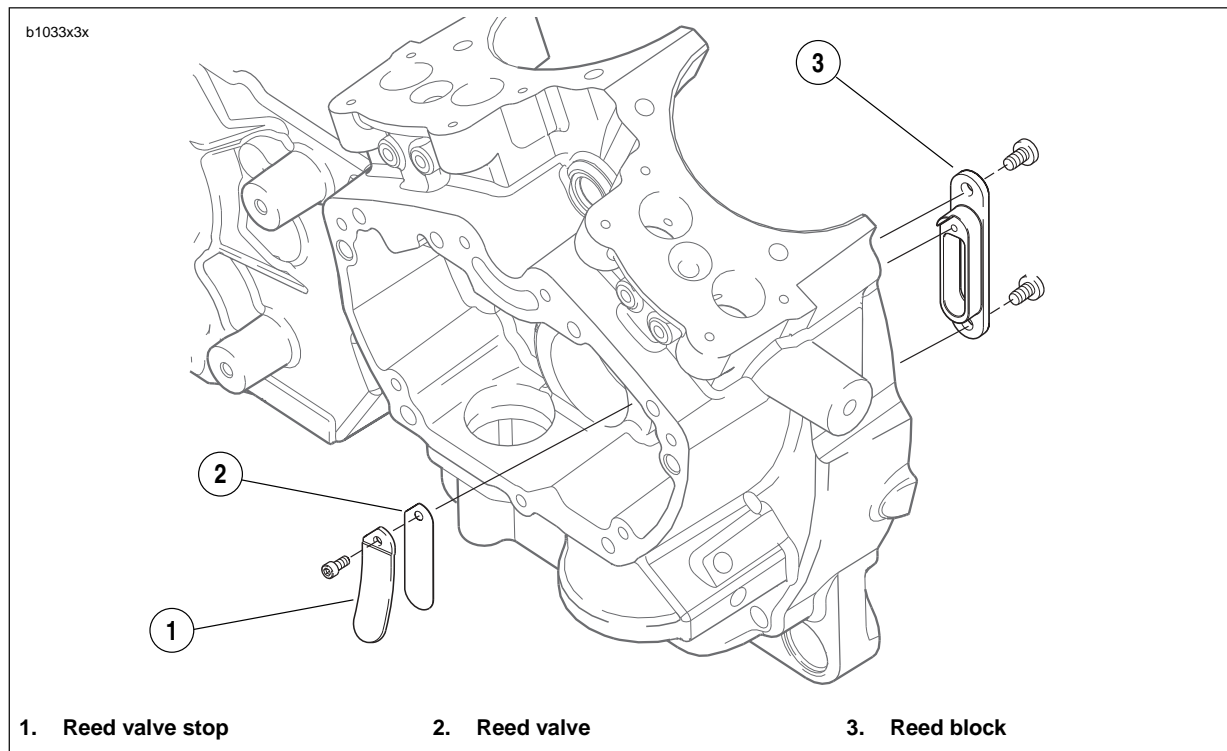

Figure 3-116. Reed Valve Assembly
See Figure 3-116. It is not necessary to replace the reed block (4) along with the reed valve. The block can only be replaced after separating the crankcase halves.